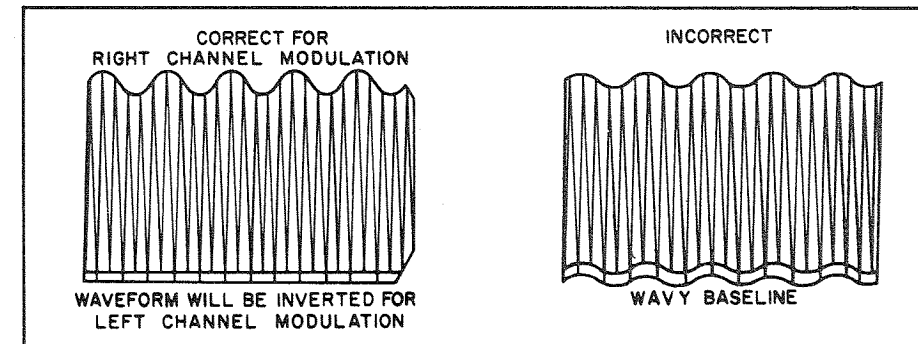

Figure 9. Waveform At Test Point 402.
(6) Adjust core of Z403 (on AM/FM IF, MPX board) for maximum gain and as straight a base-line as possible on scope (see Figure 9). AC VTVM should read minimum.
(7) With MPX generator modulated on right channel only, connect AC VTVM to Right RCDR OUT jack. Record reading on AC VTVM.
(8) Set MPX generator to modulate left channel only. Adjust R107 SEPARATION CONTROL (on preamplifier board) for minimum reading on AC VTVM; at least 30 dB below reading ing recorded in Step (7). Record reading.
(9) Connect AC VTVM to Left RCDR OUT jack. Same reading ± 2 dB as recorded in Step (7).
(10) Set MPX generator to modulate right channel only. Same reading ± 3 dB as recorded in Step (8).